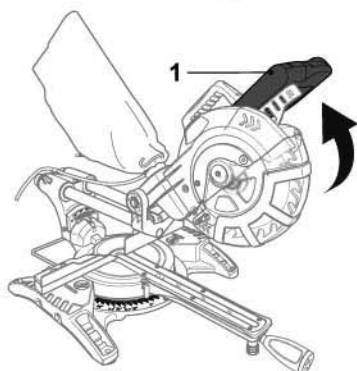

Fig. 47
- Place the workpiece flat on the turntable (14) with one edge against the fence (16).
- Adjust the plate (28c) and the bracket (28e) to the desired height (Fig. 47) and then secure the workpiece with it.